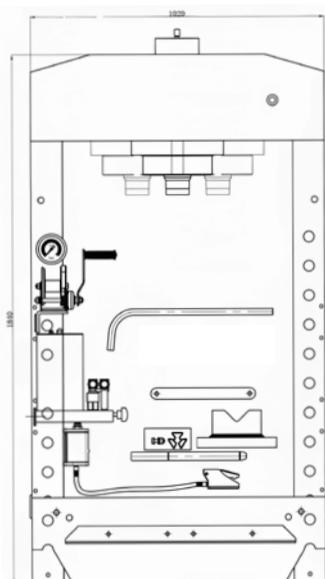

Figure 1
- The Bed Frame (23) is put at the bottom for convenient for packaging and transport. (figure 1)